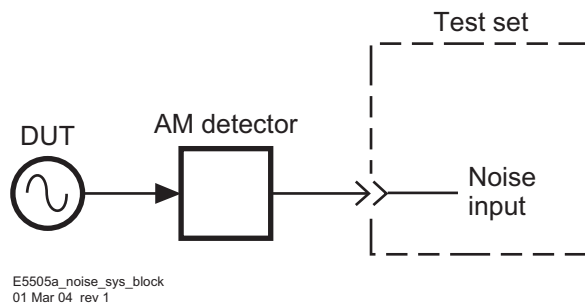
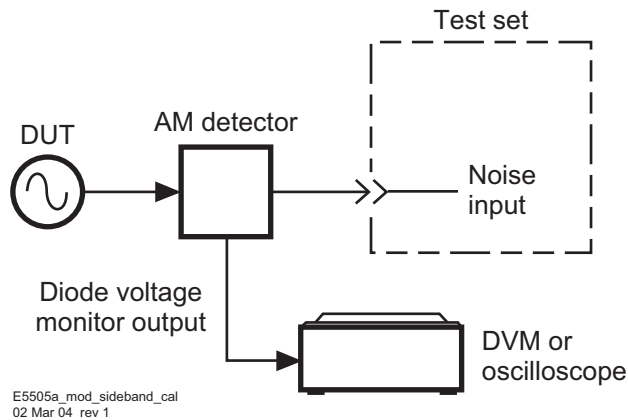

Figure 225 Phase detector constant AM noise setup (method 1, example 2)
Figure 226 Modulation sideband calibration setup
- 1 Using Figure 225 and Figure 226, connect circuit and tighten all connections. If the N5500A Option 001 or N5507A is available, use one of the connection diagrams described in “AM noise measurement block diagrams” on page 295.